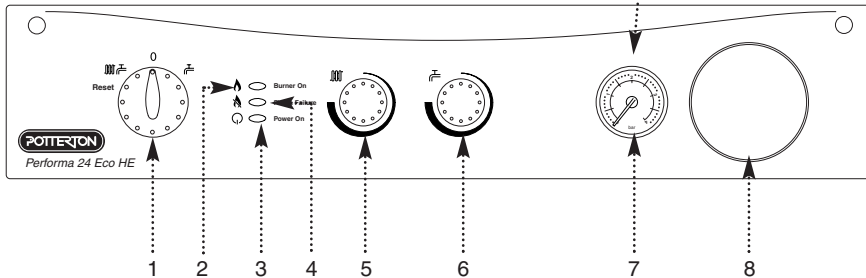

Fig. 4
3. In either position the green "power" neon (Ⓚ) will illuminate (Fig. 4).
7. The orange "burner" neon (Ⓕ) will illuminate when the boiler is operating and the main burner is on (Fig. 4).